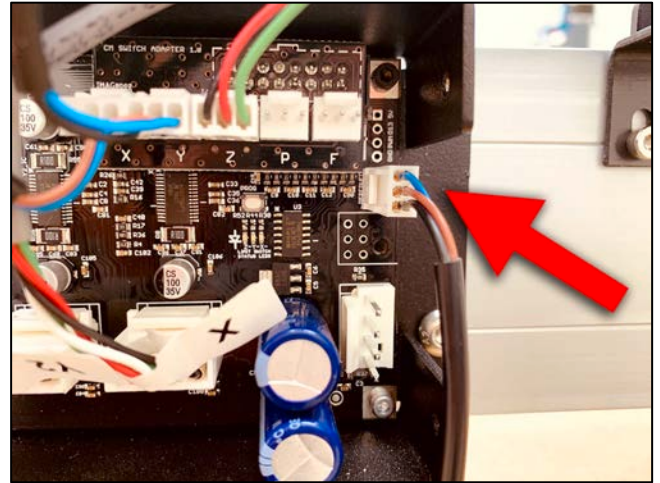

Figure 14
1. If you only have the BitSetter, you can connect it directly to the port labeled *Reserved*. See *Fig. 14*.